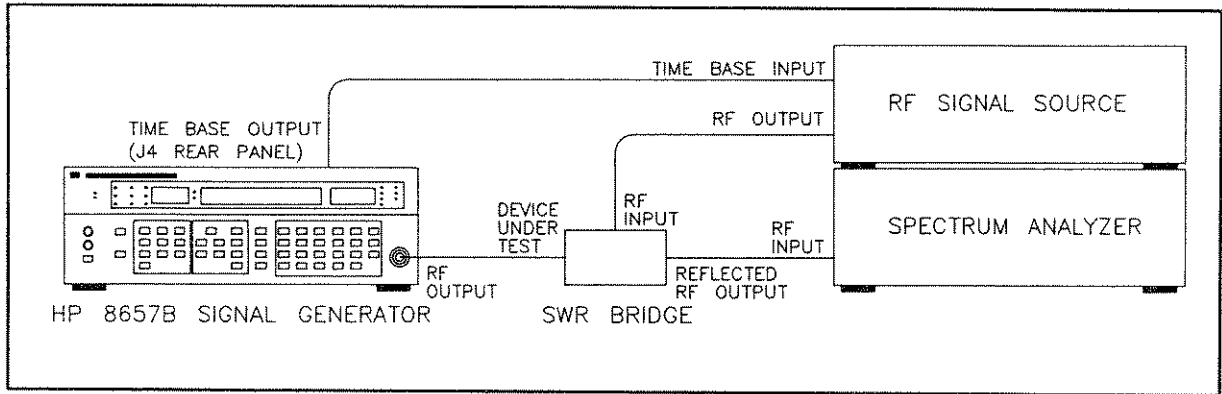

Figure 4-16. SWR Performance Test Setup (Out of Band)
4. Connect the equipment as shown in Figure 4-16.
- 11. Connect the equipment as shown in Figure 4-16.